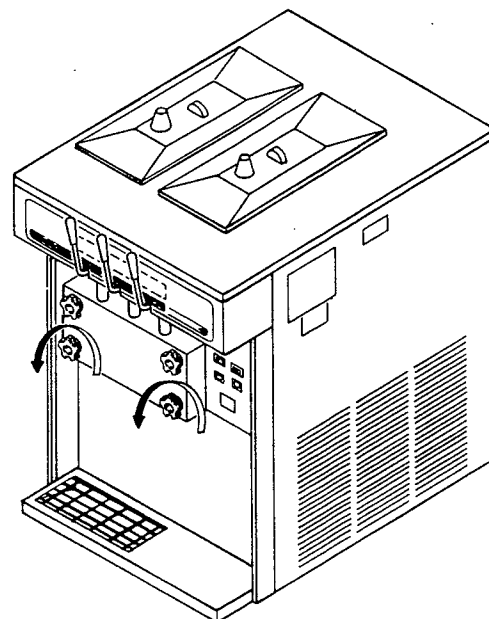

Figure 19. Removing Front Door
- B. Remove the front door by turning off the circular knobs and then pulling the front door off the studs (Fig. 19).